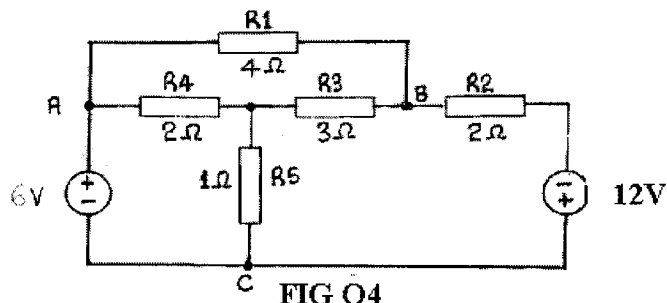

FIG Q4
4. Given Figure Q4.
- (b) What is R_{AB} , the parallel combination of R_1 in Figure Q4 and R_C found in the delta connection of (a). [4 marks]
- (d) What is R_9 the series combination of R_6 in (c) and R_2 in Figure Q4? [4 marks]